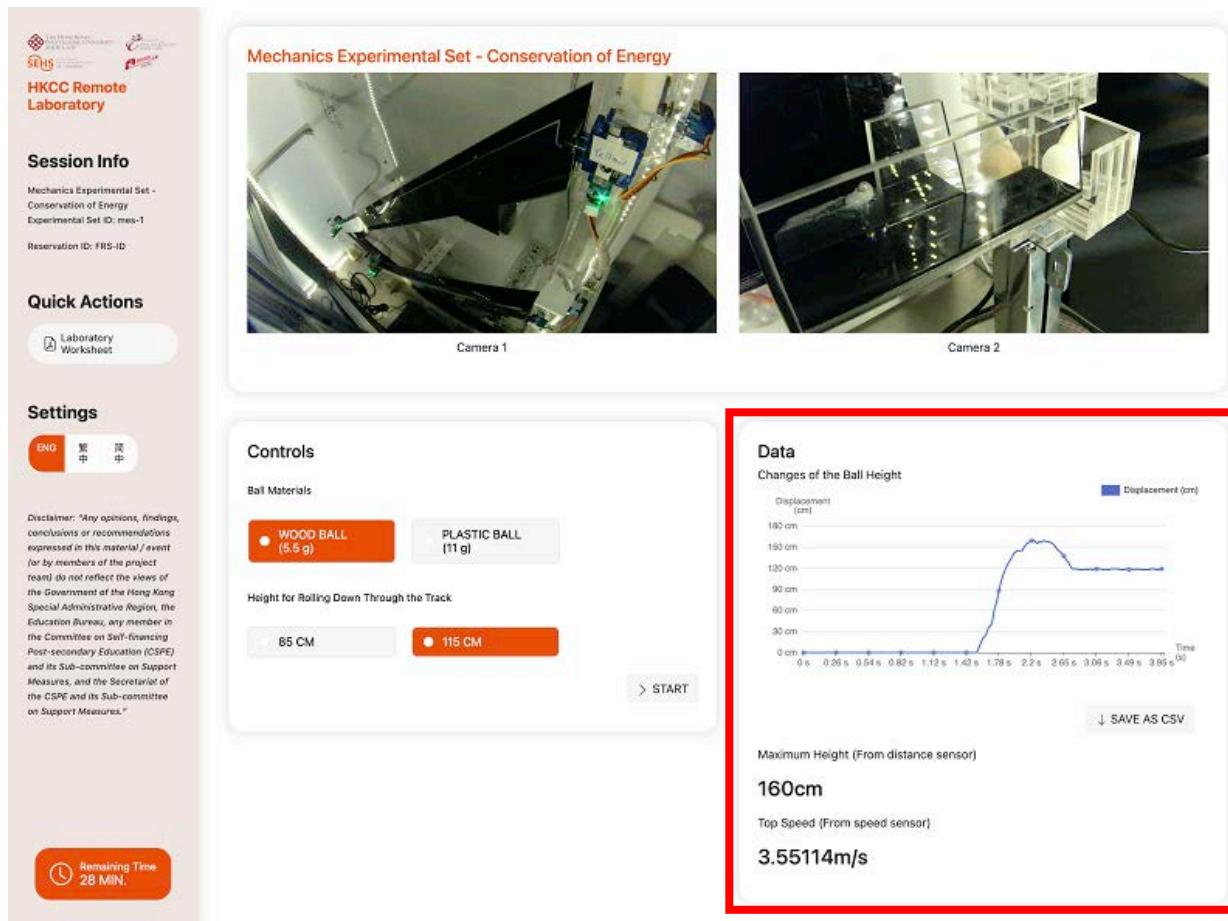

Figure 2. The experimental result.
5. Record the maximum (vertical) height of the ball and the top speed from rolling down the track from your selected height (Figure 2), and other settings in the “Data” Section below.
6. The change of ball height can be downloaded in .CSV format for further analysis (Figure 2).